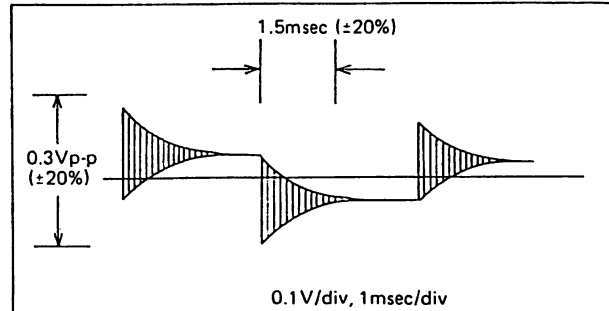

Fig. 2
- 3) Confirm that waveform is as shown in figure 2.
- 4) Adjust VR5 if necessary to prevent oscillation or to correct waveform deviation from figure 2 example.